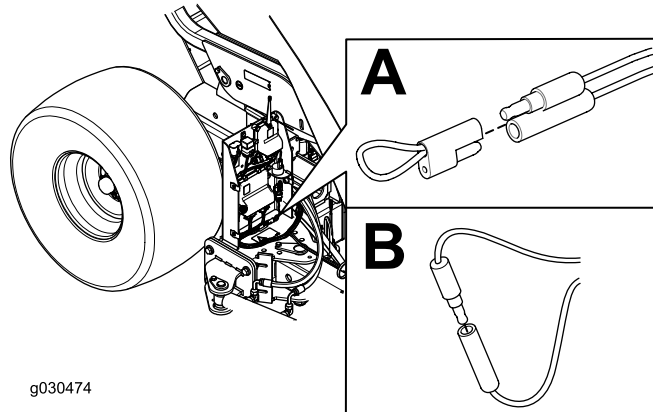

Figure 40
4. Pull the tethered cap off the 2 diagnostic, shunt connectors (Figure 40, A).
5. Connect the diagnostic, shunt connectors together (Figure 40, B).